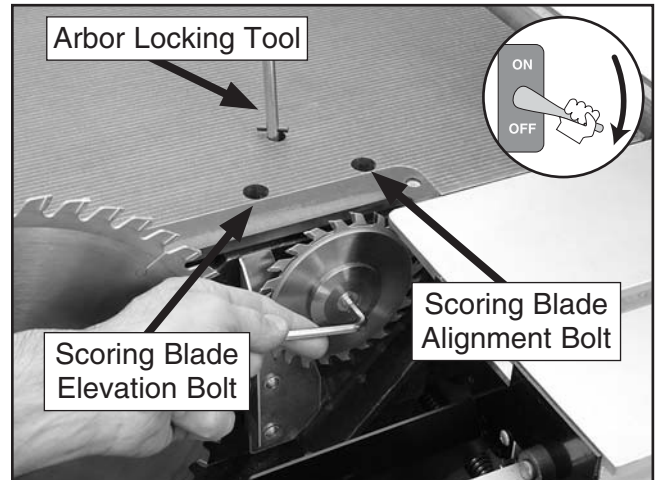

Figure 60. Removing the scoring blade.
5. To remove the scoring blade, insert the arbor locking tool to keep the arbor from turning and use the arbor wrench to remove the arbor nut and arbor flange (see **Figure 60**). **Note:** The arbor nut has right-hand threads and loosens by turning counterclockwise.